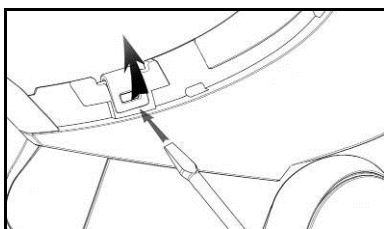

Fig. 22
- Unhook the right and left clips from the shell, levering upward using a flat head screw (or a similar tool), as shown in figure 22.